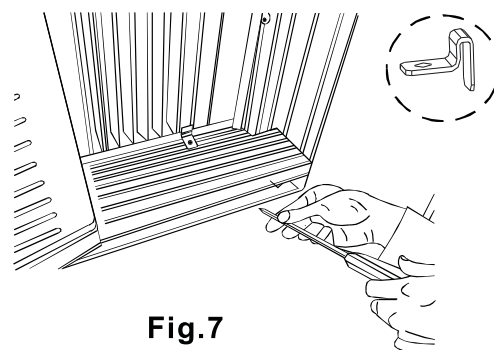

Fig.7
- A. Place the frame lock between the frame extensions and the window sill as shown (Fig.7). Drive 3/4" (19mm) or 1/2" (12.7mm) locking screws through the frame lock and into the sill.